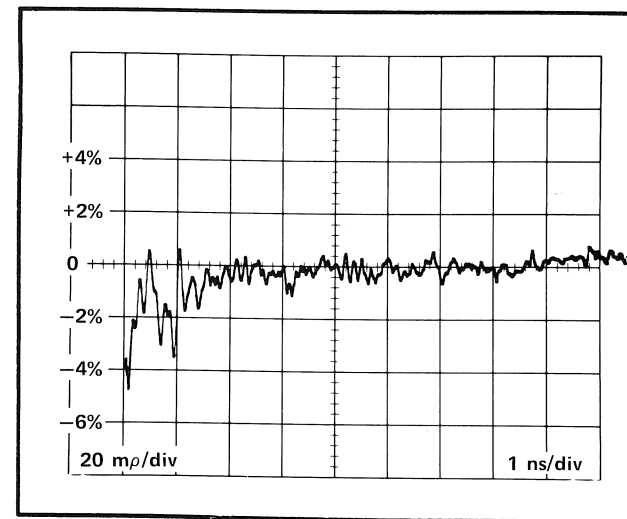

Fig. 5-6. System aberrations measurement (Step 14).
- Set the Sampler UNITS/DIV control at 20 mρ and adjust the DC OFFSET control to position the right end of the trace on the graticule center line (see Fig. 5-6).